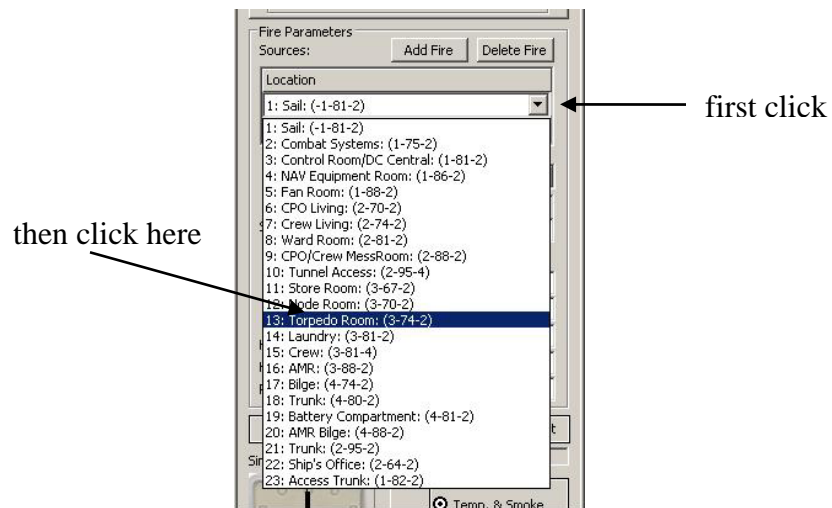

Figure 3-4 Selecting Fire Source
Step 4: Change the fire source location to compartment 13, Torpedo Room (Figure 3-4)